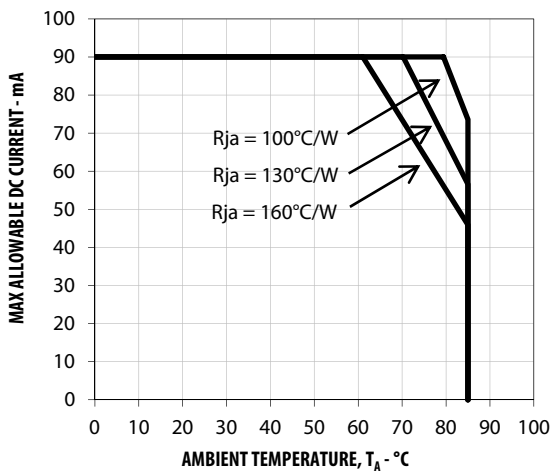

Figure 7: Maximum allowable current vs ambient temperature – Ta
1. Derate linearly as shown in Figure 7 and 8.